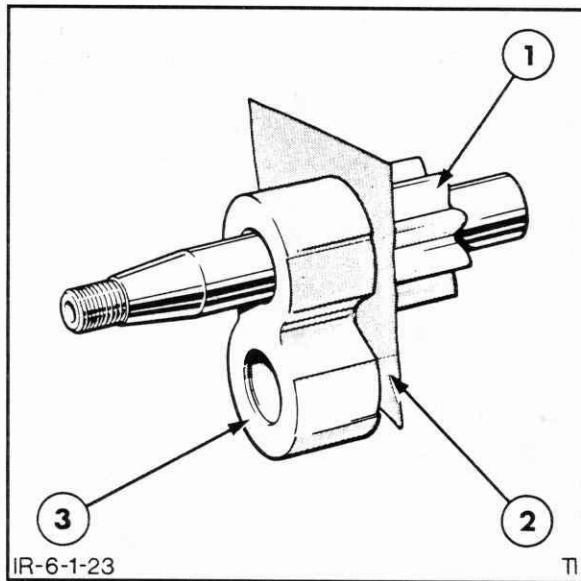

Figure 6-24
4. Examine the gears for scored or worn side faces or journals, damaged teeth, thread or keyway and surface cracks. Slight wear and scoring on the journals may be erased by mounting between lathe center and polishing with "O" grade emery paper lubricated with paraffin. Lightly scored side faces may be renovated by sandwiching emery paper between the gear face and a scrap bearing and rotating the gear, Figure 6-24.